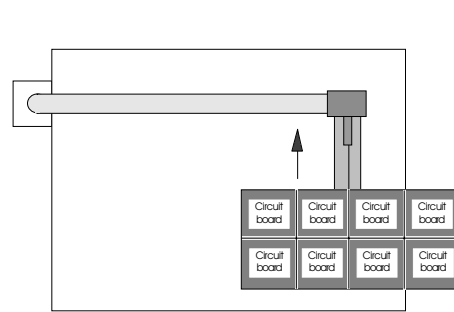

Figure 5
- Rigid table: the pre-scored circuit board is moved on the steel guide across the diamond milling disc and separated in this way (see page 7, figures 5 and 6).